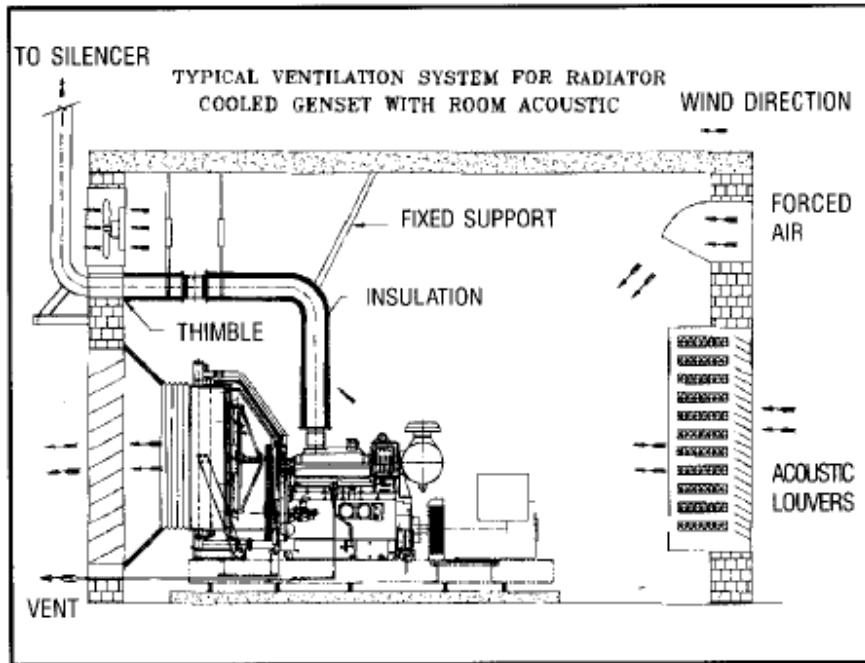

figure 4-4
- Additional ventilation arrangement may be required for radiator cooled engines installed in acoustic rooms/enclosures. Typical arrangements are shown in figure 4-4. Radiator cooled engines may create slight negative pressure inside the the genset room / enclosure. Maximum static restriction should not increase 6-mm of water column.